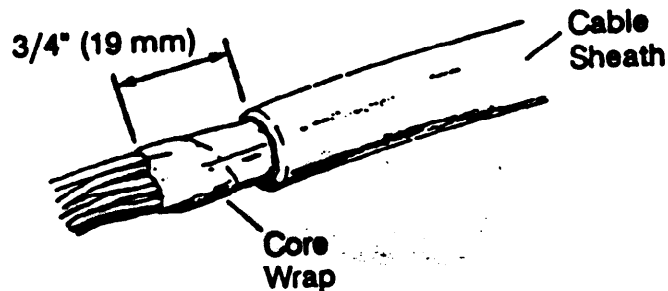

Figure 4.1 - Preparation of Single Sheath Cable
4.01 The 4460-D Shield Connectors can be used on both single and double sheath cables. For use on single sheath cables, remove $\frac{3}{4}$ " (19 mm) of cable sheath exposing the Core Wrap. Cut the shield flush with the sheath. See Figure 4.1, this prepares the sheath for installation of the 4460-D.